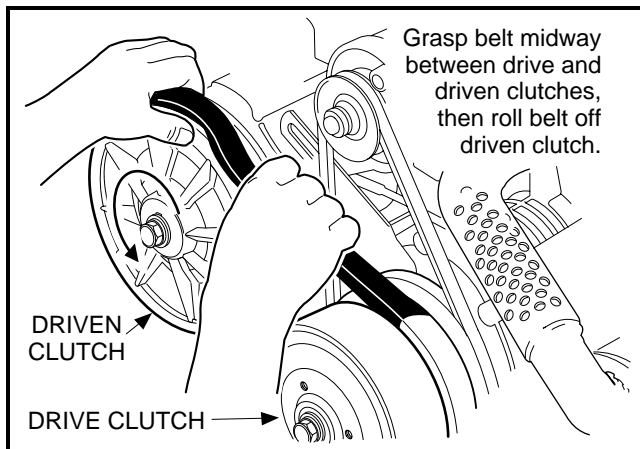

Figure 17-2 Drive Belt Removal
2. Grasp the belt midway between the drive and driven clutches. Lift upward on the belt to force the sheaves of the DRIVEN clutch apart, then roll the belt off the DRIVEN clutch by rotating the clutch counterclockwise (**Figure 17-2, Page 17-3**). **See following CAUTION.**